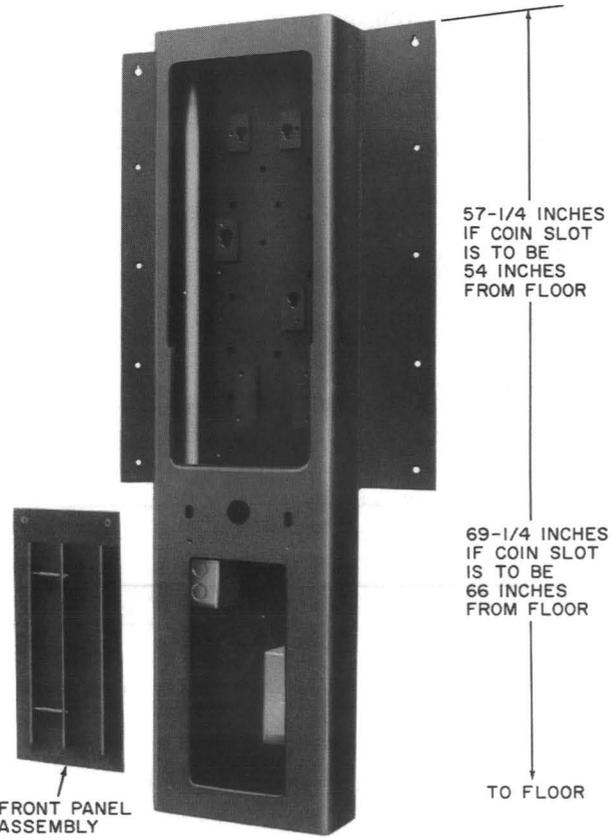

Fig. 29.3—KS-20842, List 44 Wall Mounting Bracket
2.29.2 A KS-20842, List 44 wall mounting bracket (Fig. 29.3) is available for installing a walk-in housing on a wall.◆
(1) Hold the mounting on wall at the required height (Fig. 29.3) and mark the location for two fasteners at the key hole slots.
(2) Put the mounting aside and install the two fasteners at the marked locations. Use screws or bolts per Table C.
(3) Hang mounting on the two fasteners and further secure it to wall with eight additional fasteners.